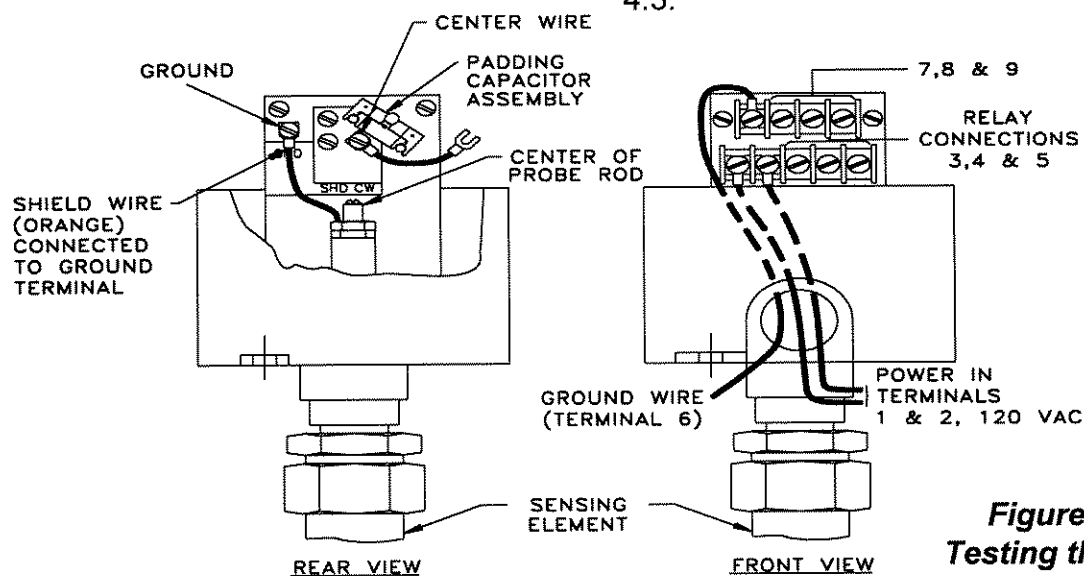

Figure 4-1
B. If output indicates "water" (high level - LED bright), remove the wire, shown in Figure 4-1, from the center of the probe rod. Instrument should reverse output.
Remove the wire from the center of the probe rod (Figure 4-1) and connect a variable resistor between the loose end of the wire and ground. Reduce the resistance to $200\ \Omega$. The instrument should give a "water" indication (high level - LED bright).